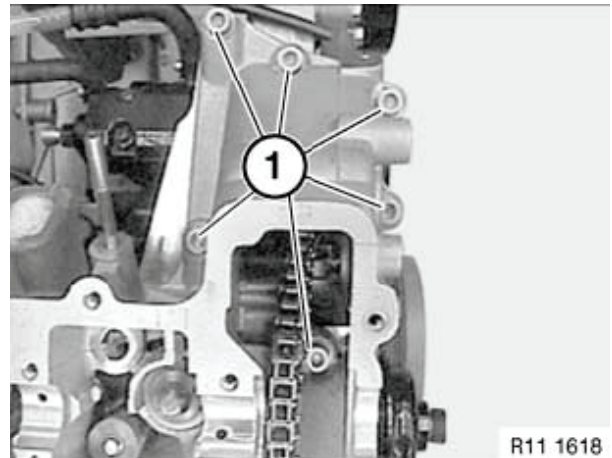

Figure 5-40
- Install the timing case cover screws (Figure 5-40, (1)) and tighten.